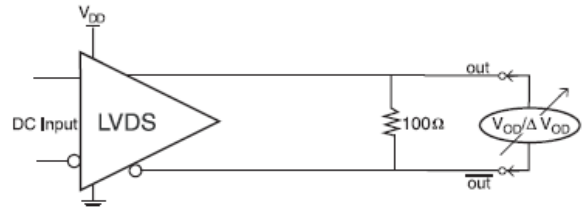

Figure 12. V_{OD} and ΔV_{OD}
- $V_{OS}\text{ max} + \frac{1}{2} V_{OD}\text{ max}$. Also see Figures 12 and 13.
- $V_{OS}\text{ min} - \frac{1}{2} V_{OD}\text{ max}$. Also see Figures 12 and 13.